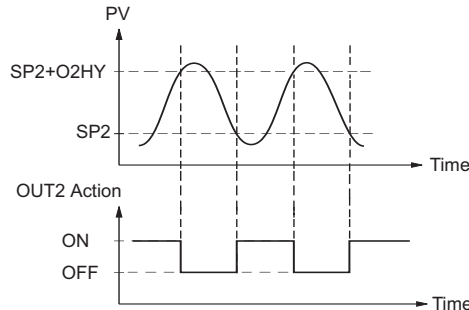
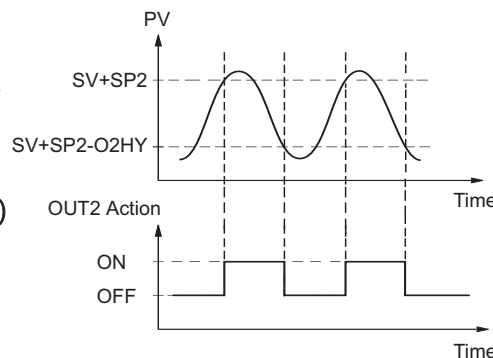

Figure 3.3 Output 2 Process Low Alarm
Figure 3.4 Output 2 Deviation High Alarm
**Output 2 ON-OFF Control ( Alarm function ):** The output 2 can also be configured as alarm function. There are 6 kinds of alarm functions can be selected for output 2, these are: **DE.HI** (deviation high alarm ), **DE.LO** (deviation low alarm ), **DB.HI** (deviation band out of band alarm), **DB.LO** (deviation band in band alarm), **PV.HI** (process high alarm ) and **PV.LO** ( process low alarm ). Refer to **Figure 3.3** and **Figure 3.4** for the description of deviation alarm and process alarm with normal alarm mode ( NORM is set for ALMD ).